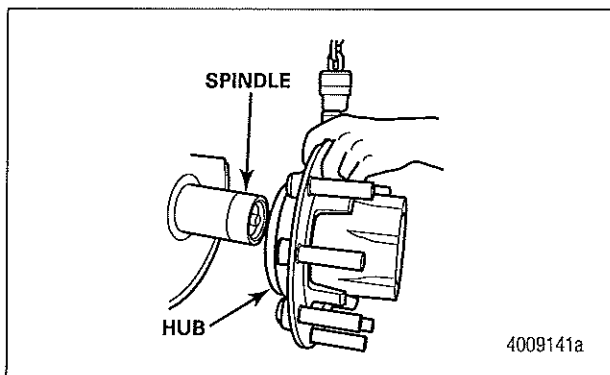

Figure 22
5. Support the hub using an appropriate method. Align and install the hub onto the spindle. The hub must be supported correctly or damage to the spindle threads or seal can occur. Figure 22.